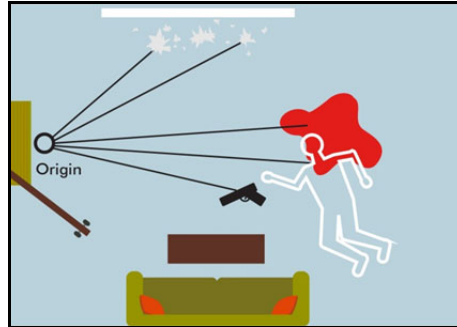

Figure 15
- All three data collection methods also work for indoor crime scenes. The results will be the same except on a smaller scale. Figure 15 shows an example of an indoor crime scene, measured using the Radial with Angle method. The investigator was positioned in a doorway and took shots to the broken window glass, the body, the gun, and the pool of blood.